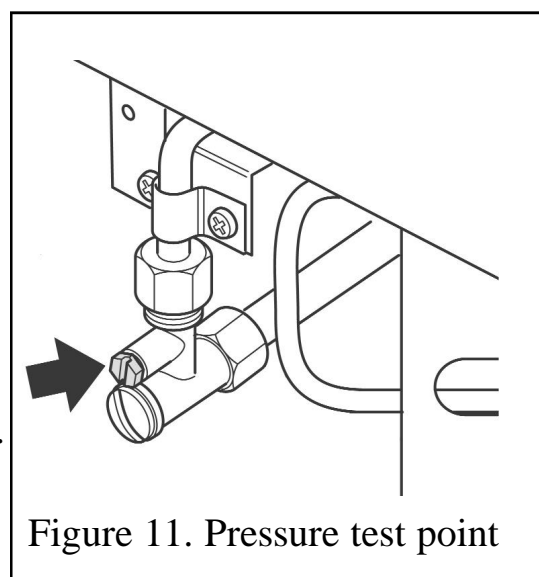

Figure 11. Pressure test point
1. Check the inlet pressure by fitting a pressure gauge at the test point. The test point is on the inlet 'T' connector (See figure 11). Check the pressure with the appliance alight and set at maximum output.